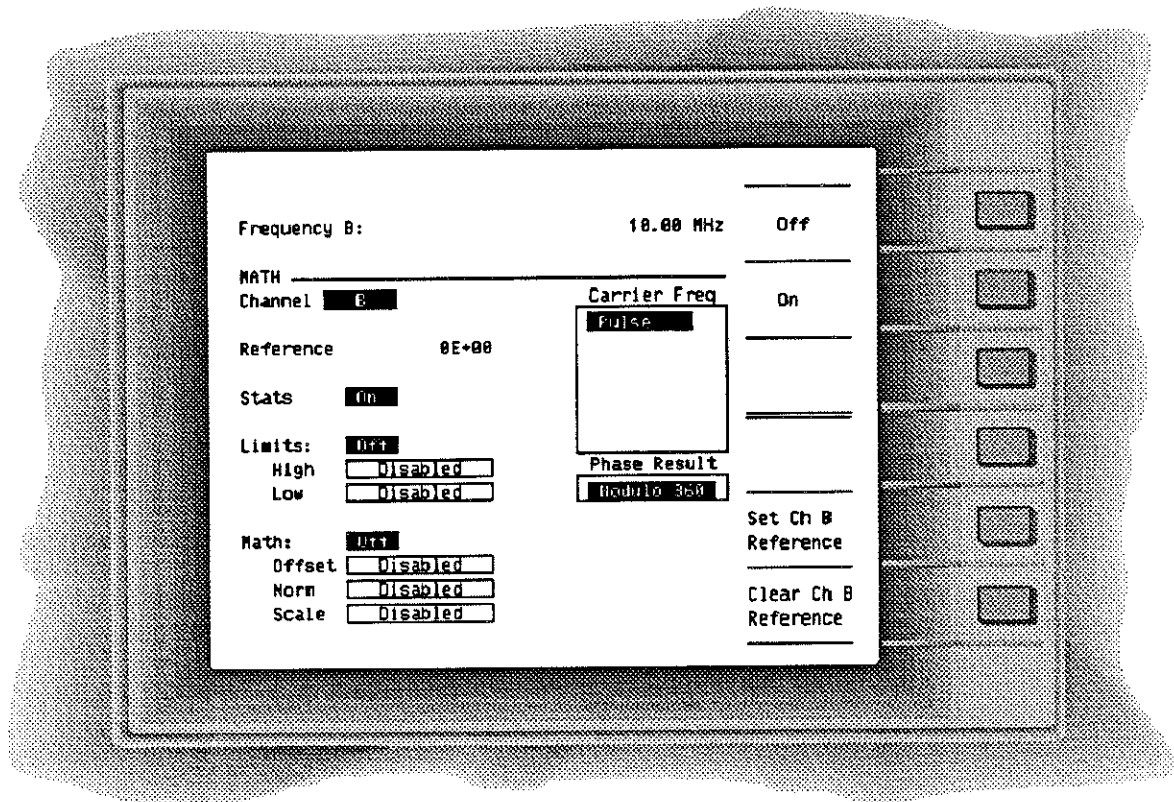

Figure 2-13. Math Menu Showing Statistics On
- The statistics feature is enabled for Channel B. See *Figure 2-13*.